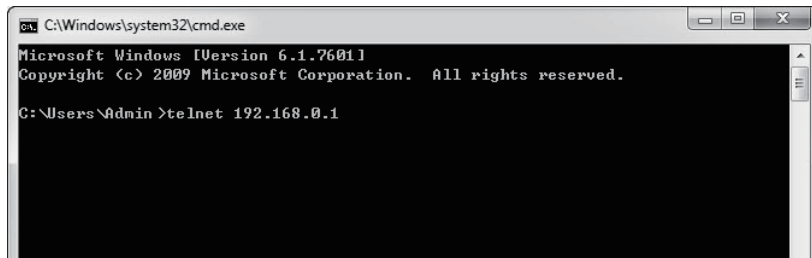

Figure 5-6 Connecting the Switch
4. Type telnet **192.168.0.1** in the command prompt shown as Figure 5-6, and press the **Enter** button.